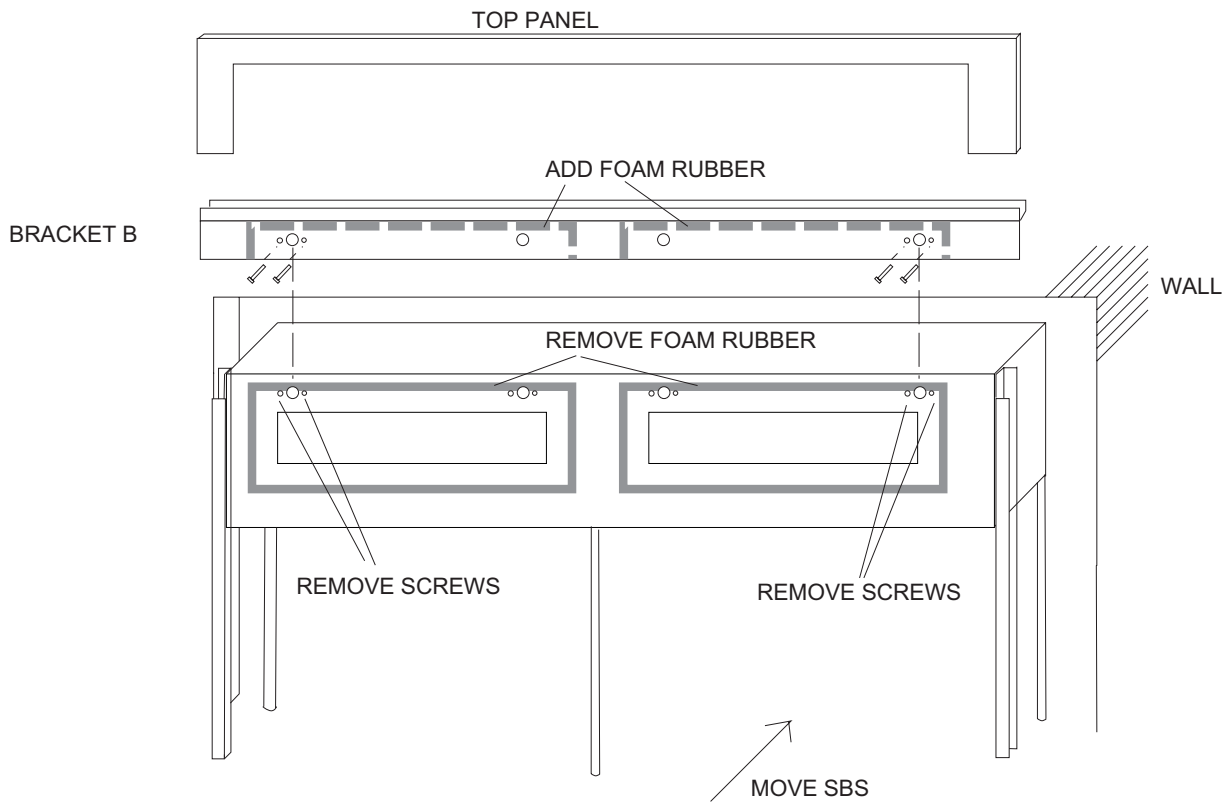

figure 14-5
5. Partly remove the FOAM RUBBER beginning at the top (see FIGURE 14-5).
6. Remove 4 SCREWS (see FIGURE 14-5).